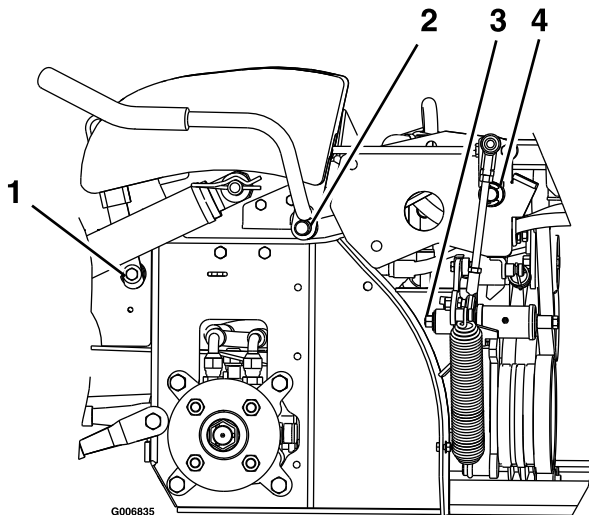

Figure 7
2. Lubricate bronze bushings on brake handle pivot with a spray type lubricant or light oil (see Figure 7).